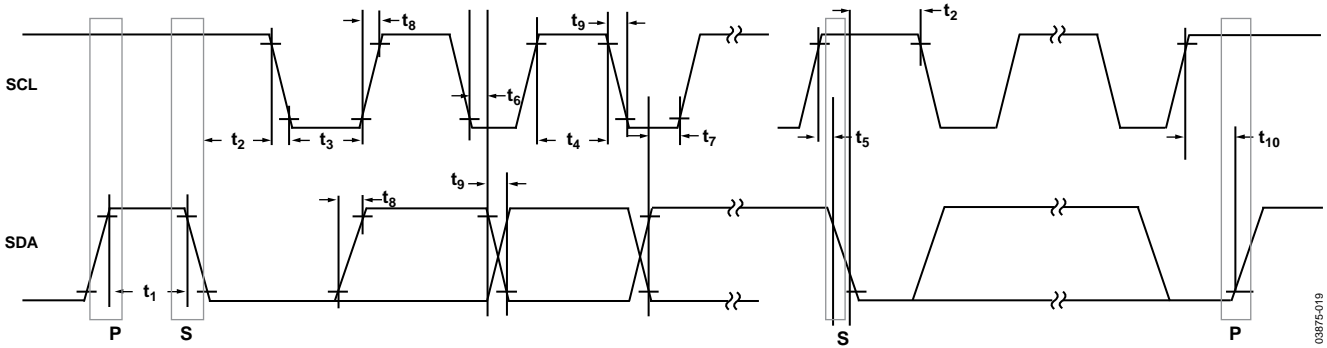
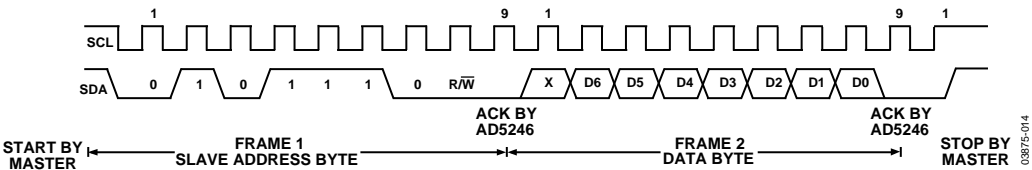
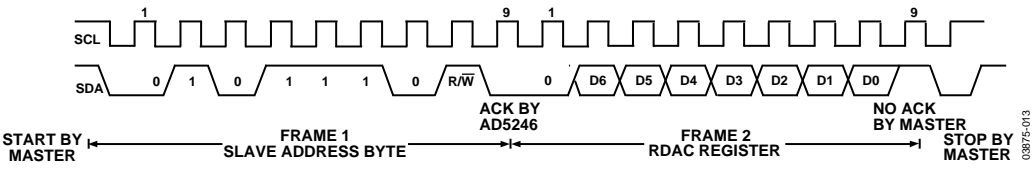

Figure 26. I²C Interface, Detailed Timing Diagram
Figure 27. Writing to the RDAC Register
Figure 28. Reading from the RDAC Register
³ See timing diagrams (Figure 26, Figure 27, and Figure 28) for locations of measured values.
1. The master initiates data transfer by establishing a START condition, which is when a high-to-low transition on the SDA line occurs while SCL is high (see Figure 27). The following byte is the slave address byte, which consists of the 7-bit slave address followed by an $\overline{\text{R/W}}$ bit (this bit determines whether data will be read from or written to the slave device).
3. In read mode, after acknowledgement of the slave address byte, data is received over the serial bus in sequences of nine clock pulses (a slight difference from the write mode where eight data bits are followed by an acknowledge bit). Similarly, the transitions on the SDA line must occur during the low period of SCL and remain stable during the high period of SCL (see Figure 28).
4. When all data bits have been read or written, a STOP condition is established by the master. A STOP condition is defined as a low-to-high transition on the SDA line while SCL is high. In write mode, the master pulls the SDA line high during the tenth clock pulse to establish a STOP condition (see Figure 27). In read mode, the master issues a No Acknowledge for the ninth clock pulse (that is, the SDA line remains high). The master then brings the SDA line low before the tenth clock pulse, which goes high to establish a STOP condition (see Figure 28).